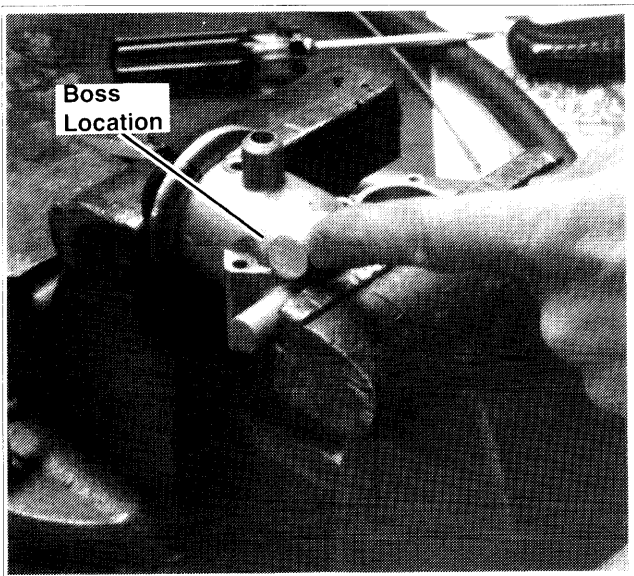

Figure 2. Adapter Boss Removal
2. The air cleaner adapter must be further modified by removing adapter boss. Use a hacksaw or similar tool to cut off the portion of the adapter boss shown in Figure 2. (Boss already removed in Figure 2.)